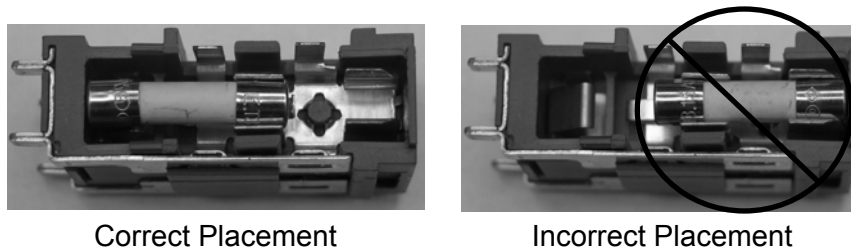

Figure 15: AC Fuse Placement
- 5) Place the new fuse into the fuse holder as indicated by the orientation in Figure 15.